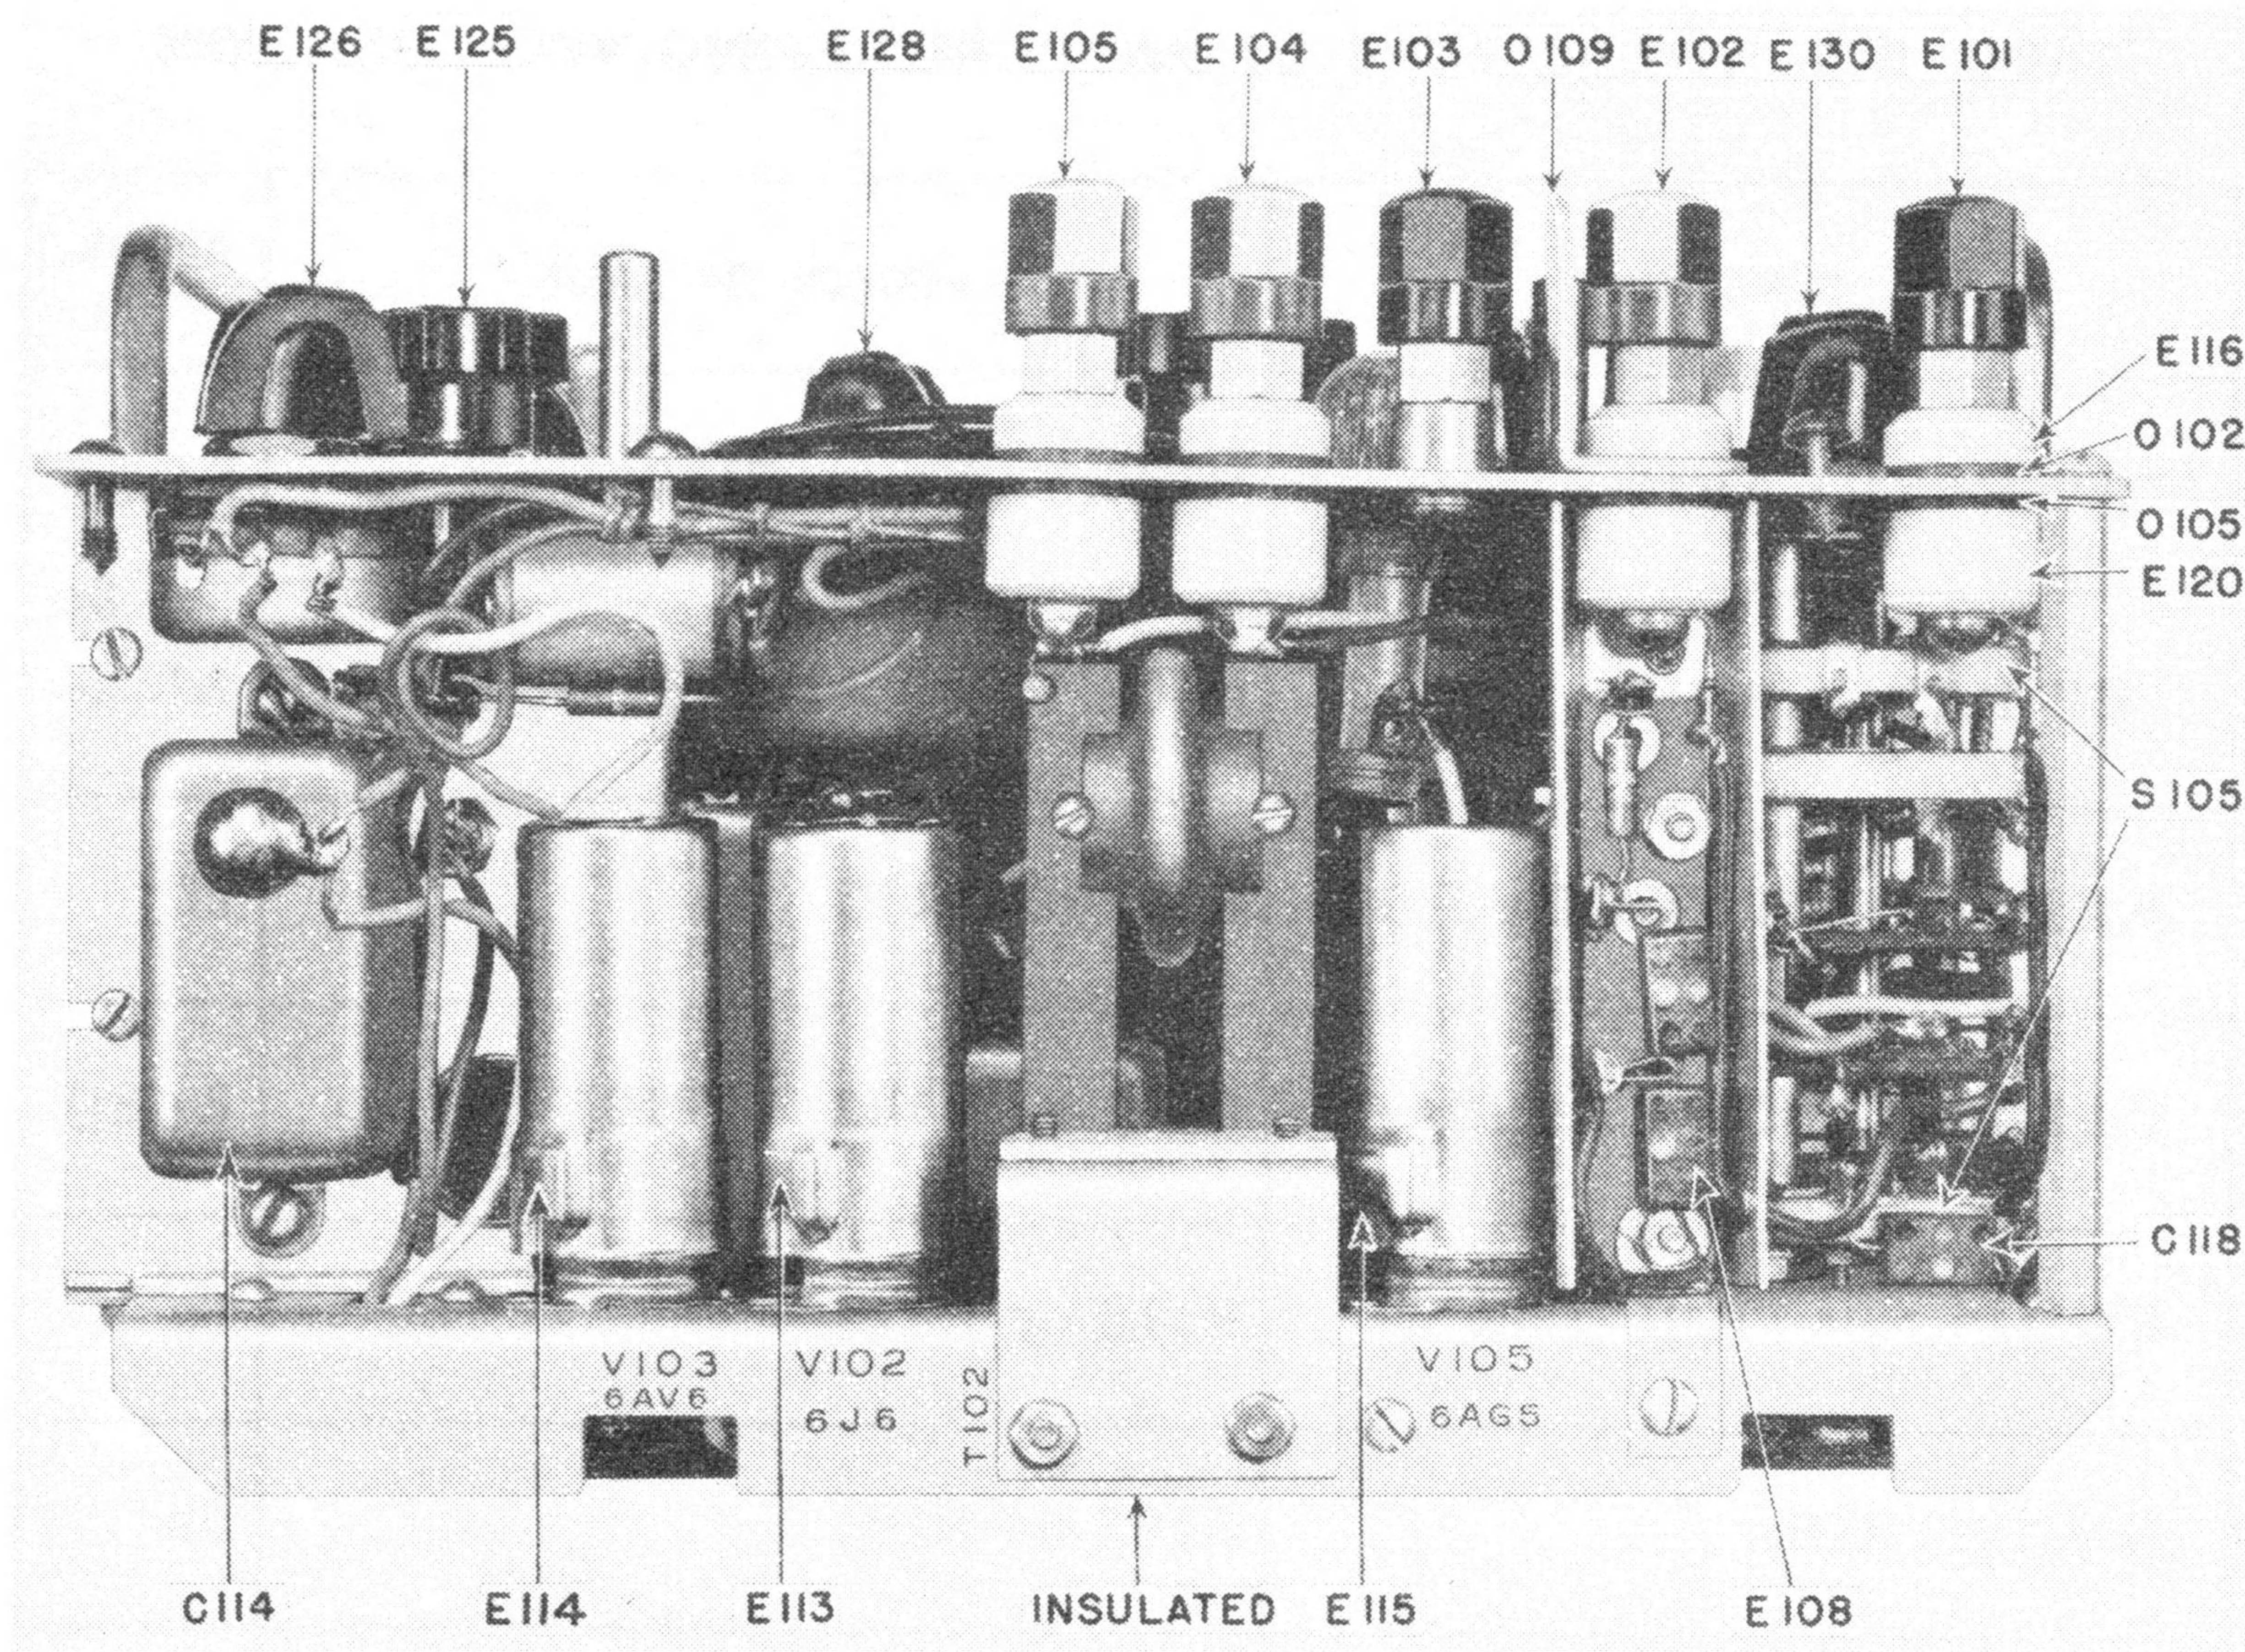

Figure 5-9. Bridge, ZM-11/U, Back Side.
d. CAPACITOR-RESISTOR ASSEMBLY, E108. - This unit, shown in detail in Figure 5-6, mounts in a shielding channel beneath the binding post E102, Figure 5-9. Do not remove the shield channel or the bracket but simply:-
f. BINDING POSTS - At the upper right hand of Figure 5-9, a group of four call-outs brings to particular attention the insulated parts employed for mounting the binding post E101. In addition to the mating ceramic parts E116 and E120, two bakelite washers O102 and O105 are employed on either side of the panel. These provide for expansion and contraction of the metal parts and should never be omitted in mounting binding posts E101, E102, E104 or E105.
Remove two secondary leads from upper end, adjacent to binding posts. (See Figure 5-9)